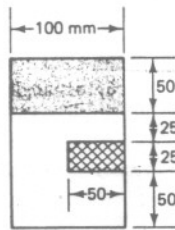

Fig. 1
1. A beam having a solid rectangular cross-section with the dimensions shown in Fig. 1 is subjected to a positive bending moment of 20 kN-m acting around the horizontal axis. Find (a) the compressive force acting on the shaded area of the cross-section developed by the bending stresses, and (b) the tensile force acting on the cross-hatched area of the cross-section. [Ans. (a) 177.8 kN, (b) 11.1 kN]